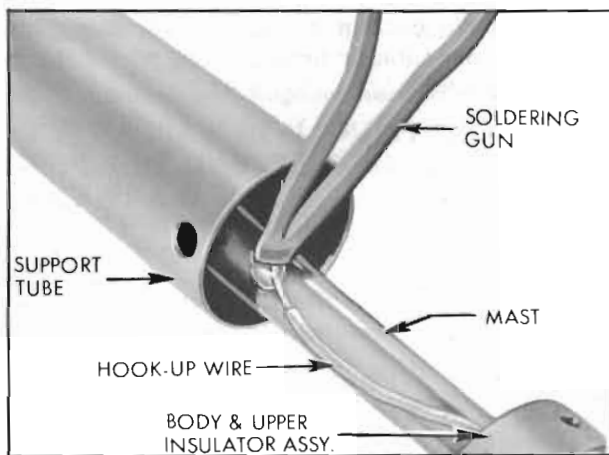

Figure 11-14—Soldering the Hook-up Wire to the Mast
5. Solder this free-end of the hook-up wire to the .400 tube section using rosin flux solder. See Figure 11-14.